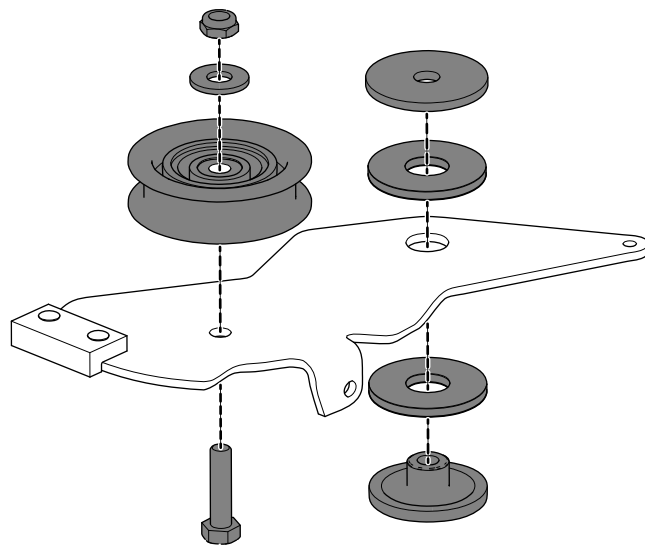

Figure 10
4. Remove the hardware from the brake arm (Figure 10).